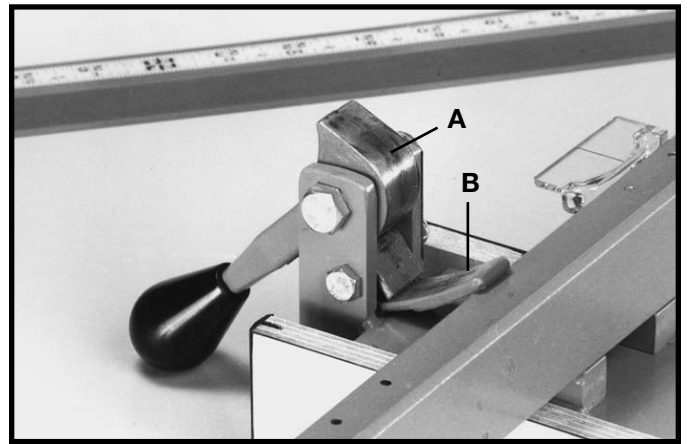

Fig. 53
2. Apply grease to cam lock (A) Fig. 53, and cam foot (B) occasionally to prevent wear.